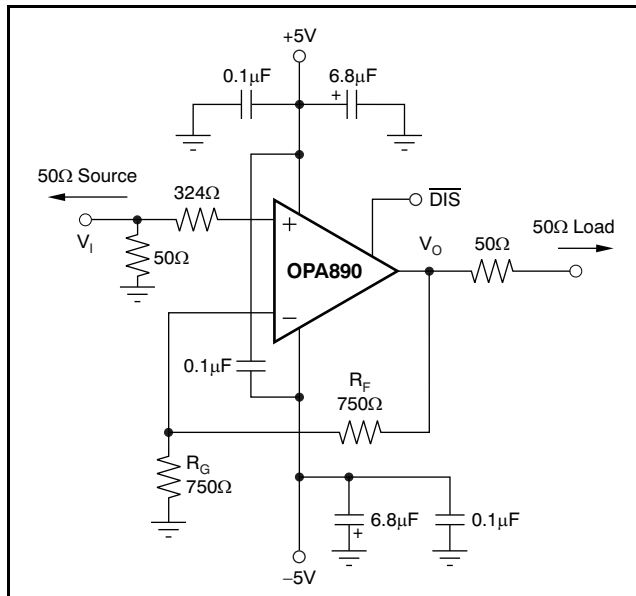
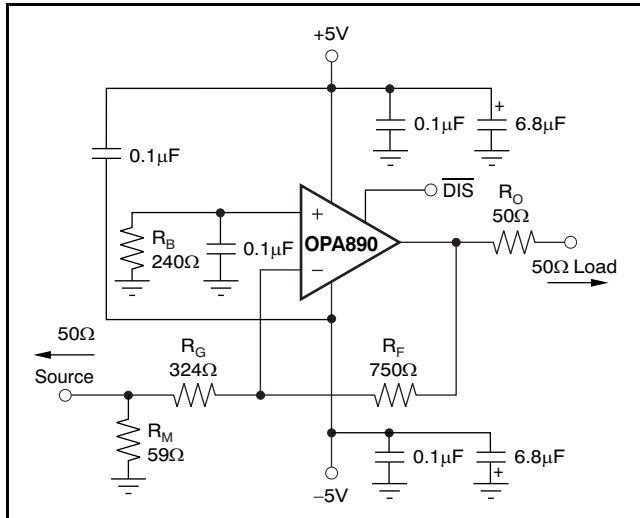

Figure 46. DC-Coupled, G = +2, Bipolar Supply, Specification and Test Circuit
Figure 51. Gain of $-2V/V$ Example Circuit
Figure 46 shows the dc-coupled, gain of +2, dual power-supply circuit configuration used as the basis of the $\pm 5\text{V}$ Electrical Characteristics and Typical Characteristics. For test purposes, the input impedance is set to 50Ω with a resistor to ground and the output impedance is set to 50Ω with a series output resistor. Voltage swings reported in the Typical Characteristics are taken directly at the input and output pins, while output powers (dBm) are at the matched 50Ω load. For the circuit of Figure 46, the total effective load will be $100\Omega \parallel 1.5\text{k}\Omega$. The disable control line is typically left open to ensure normal amplifier operation. Two optional components are included in Figure 46. An additional resistor (324Ω) is included in series with the noninverting input. Combined with the 25Ω dc source resistance looking back towards the signal generator, this configuration gives an input bias current cancelling resistance that matches the 375Ω source resistance seen at the inverting input (see the DC Accuracy and Offset Control section). In addition to the usual power-supply decoupling capacitors to ground, a $0.1\mu\text{F}$ capacitor is included between the two power-supply pins. In practical printed circuit board (PCB) layouts, this optional-added capacitor typically improves the 2nd-harmonic distortion performance by 3dB to 6dB.
Voltage-feedback op amps exhibit decreasing closed-loop bandwidth as the signal gain is increased. In theory, this relationship is described by the gain bandwidth product (GBP) shown in the *Electrical Characteristics*. Ideally, dividing GBP by the noninverting signal gain (also called the noise gain, or NG) predicts the closed-loop bandwidth. In practice, this relationship only holds true when the phase margin approaches 90° , as it does in high-gain configurations. At low gains (increased feedback factors), most amplifiers exhibit a more complex response with lower phase margin. The OPA890 is compensated to give a slightly peaked response in a noninverting gain of $2V/V$ (see Figure 46). This compensation results in a typical gain of $+2V/V$ bandwidth of $115MHz$, far exceeding that predicted by dividing the $130MHz$ GBP by 2. Increasing the gain causes the phase margin to approach 90° and
The OPA890 is a general-purpose, wideband voltage-feedback op amp; therefore, all of the familiar op amp application circuits are available to the designer. Inverting operation is one of the more common requirements and offers several performance benefits. Figure 51 shows a typical inverting configuration where the I/O impedances and signal gain from Figure 46 are retained in an inverting circuit configuration.
In the inverting configuration, three key design considerations must be noted. First, the gain resistor (R_G) becomes part of the signal channel input impedance. If input impedance matching is desired (which is beneficial whenever the signal is coupled through a cable, twisted-pair, long PCB trace, or other transmission line conductor), R_G may be set equal to the required termination value and R_F adjusted to give the desired gain. This approach is the simplest, and results in optimum bandwidth and noise performance. However, at low inverting gains, the resultant feedback resistor value can present a significant load to the amplifier output. For an inverting gain of $-2V/V$, setting R_G to 50Ω for input matching eliminates the need for R_M but requires a 100Ω feedback resistor. This option has the interesting advantage that the noise gain becomes equal to $2V/V$ for a 50Ω source impedance—the same as the noninverting circuits considered in the previous section. The amplifier output, however, now sees the 100Ω feedback resistor in parallel with the external load. In general, the feedback resistor should be limited to a range of 200Ω to $1.5k\Omega$. In this case, it is preferable to increase both the R_F and R_G values, as shown in Figure 51, and then achieve the input matching impedance with a third resistor (R_M) to ground. The total input impedance becomes the parallel combination of R_G and R_M .
The second major consideration, touched on in the previous paragraph, is that the signal source impedance becomes part of the noise gain equation and influences the bandwidth. For the example in Figure 51, the R_M value combines in parallel with the external 50Ω source impedance, yielding an effective driving impedance of $50\Omega \parallel 59\Omega = 27\Omega$. This impedance is added in series with R_G for calculating the noise gain (NG). The resulting NG is $3.14V/V$ for Figure 51, as opposed to only 2 if R_M could be eliminated as discussed previously. The bandwidth is therefore slightly lower for the gain of $-2V/V$ circuit of Figure 51 than for the gain of $+2V/V$ circuit of Figure 46.
The third important consideration in inverting amplifier design is setting the bias current cancellation resistor on the noninverting input (R_B). If this resistor is set equal to the total dc resistance looking out of the inverting node, the output dc error (because of the input bias currents) is reduced to $(\text{Input Offset Current}) \times R_F$. If the 50Ω source impedance is dc-coupled in Figure 51, the total resistance to ground on the inverting input is 351Ω . Combining this resistance in parallel with the feedback resistor gives the value of $R_B = 240\Omega$ used in this example. To reduce the additional high-frequency noise introduced by this resistor, it is sometimes bypassed with a capacitor. As long as $R_B < 350\Omega$, a capacitor is not required because the total noise contribution of all other terms is less than that of the op amp input noise voltage. As a minimum, the OPA890 requires an R_B value of 50Ω to damp out parasitic-induced peaking—a direct short to ground on the noninverting input runs the risk of a very high-frequency instability in the input stage.
Evaluating these two equations for the OPA890 circuit and component values (see Figure 46) gives a total output spot noise voltage of 17.4nV/√Hz and a total equivalent input spot noise voltage of 8.7nV/√Hz. This total includes the noise added by the bias current cancellation resistor (175Ω) on the noninverting input. This total input-referred spot noise voltage is only slightly higher than the 8nV/√Hz specification for the op amp voltage noise alone. This result will be the case, as long as the impedances appearing at each op amp input are limited to the previously recommend maximum value of 350Ω. Keeping both $(R_F \parallel R_G)$ and the noninverting input source impedance less than 350Ω satisfies both noise and frequency response flatness considerations. Because the resistor-induced noise is relatively negligible, additional capacitive decoupling across the bias current cancellation resistor (R_B) for the inverting op amp configuration of Figure 51 is not required.
The balanced input stage of a wideband voltage-feedback op amp allows good output dc accuracy in a wide variety of applications. The power-supply current trim for the OPA890 gives even tighter control than comparable amplifiers. Although the high-speed input stage does require relatively high input bias current (+25°C worst case, 1.6μA at each input terminal), the close matching between them may be used to reduce the output dc error caused by this current. The total output offset voltage may be considerably reduced by matching the dc source resistances appearing at the two inputs. This matching reduces the output dc error resulting from the input bias currents to the offset current times the feedback resistor. Evaluating the configuration of Figure 46, and using worst-case +25°C input offset voltage and current specifications, gives a worst-case output offset voltage equal to: